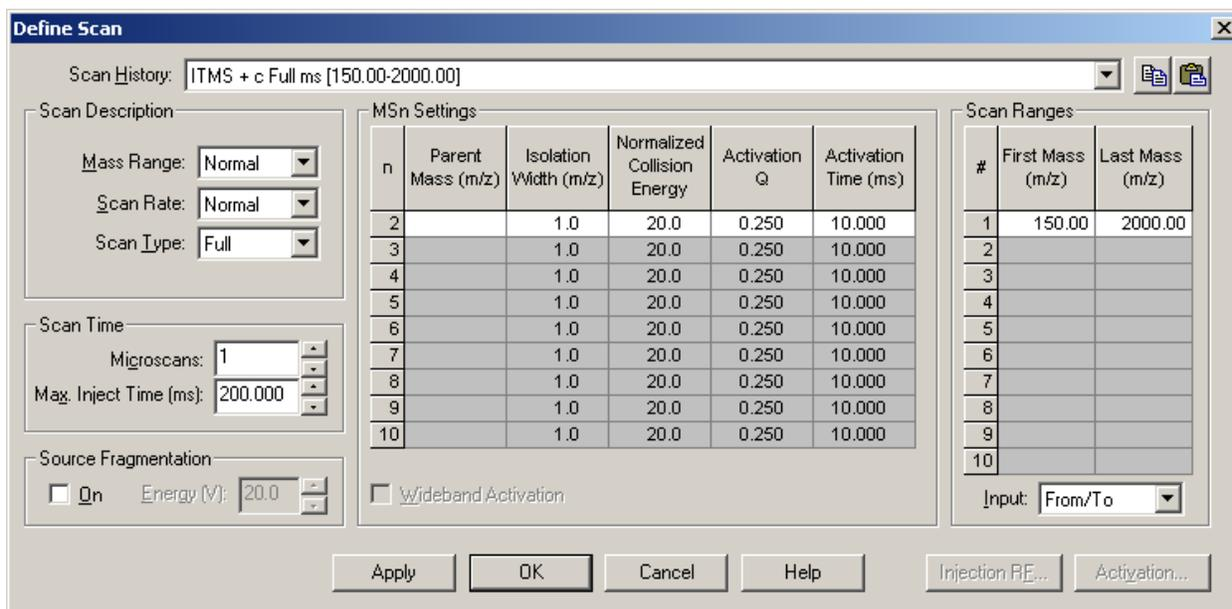

Figure 20. Define Scan dialog box, showing the default settings for ESI/MS operation
- a. On the Control/Scan Mode toolbar, click the **Define Scan** button to open the Define Scan dialog box. See Figure 20. (If your dialog box appears different from the one shown in the figure, it is probably because the advanced settings are not displayed. You can turn on the advanced settings as follows: In Tune Plus, choose **ScanMode**, and then click **Advanced Scan Features** to select the option.)
- k. Ensure that the settings in your Define Scan dialog box are the same as those shown in Figure 20.